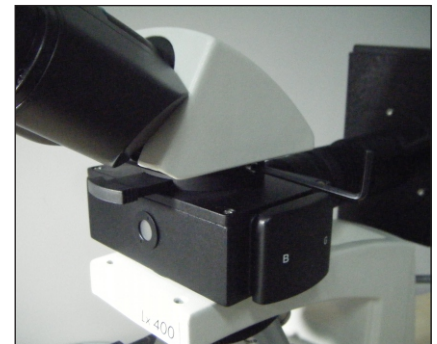

Fig. 3
3. Replace the observation head on top of the filter block and secure by lightening thumbscrew as shown in Fig. 3.